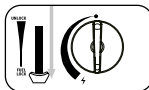
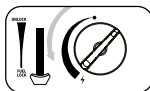

Fig. 3
Fig. 4
3. Press the cartridge lever (6) down (fig. 3) and close the cartridge cover.
4. If you hear a "hissing" noise, the cartridge has not been correctly fitted. Do not attempt to ignite the appliance but move lever (6) to the **"UNLOCK"** position and repeat step 1-4.
5. Turn the knob (8) fully to the ignition position until it clicks (fig. 4). Repeat this action until burner ignites.